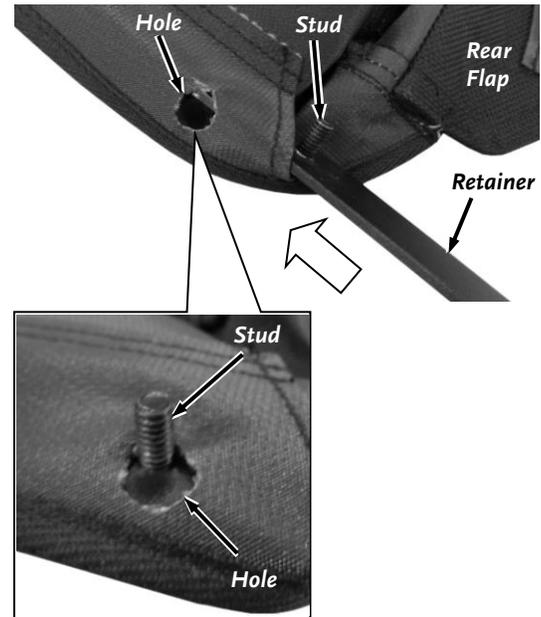

Figure 29
5. Insert the front end of the Side Retainer into the rear end of the pocket so when installed the Side Retainer will be in the same orientation shown in the photo. It works best to keep the studs tilted sideways until they all align with the Enclosure holes, then twist the Retainer so the studs go into the holes (**Figure 29**).